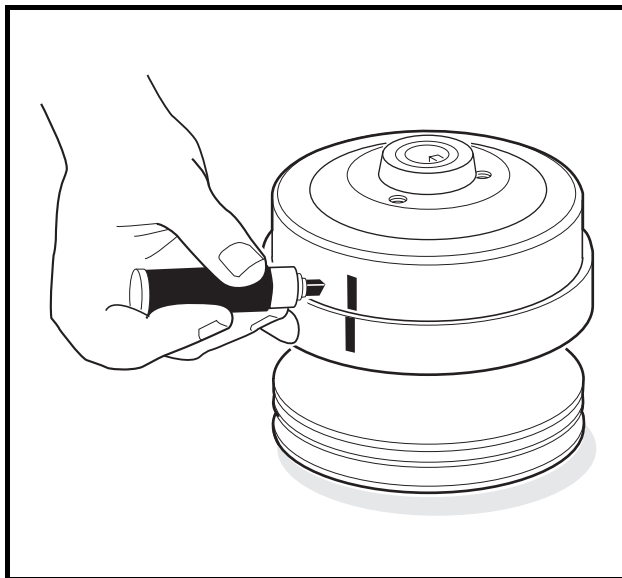

Figure 20-6 Mark Drive Clutch Hub
- The drive clutch is balanced as an assembly. Before disassembly, make match marks on the drive clutch hub and on the moveable face assembly so they can be reassembled in the same positions (Figure 20-6, Page 20-7).
1. Make match marks on the drive clutch hub and on the moveable face casting (Figure 20-6, Page 20-7).